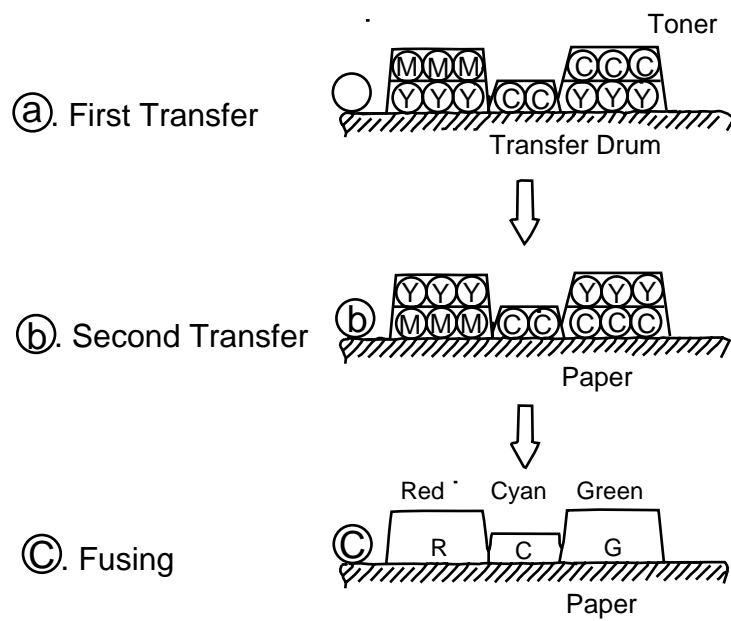

Fig4-4
- Toner image developed with the primary colors is transferred to the transfer drum for the color combination as shown in Fig.4-4-a.
- Toner image formed on the transfer drum is transferred to a transported paper as shown in Fig.4-4-b.
- Toner on the paper is fused by the thermal fuser unit to fix the toner image on the paper as shown in Fig.4-4-c.